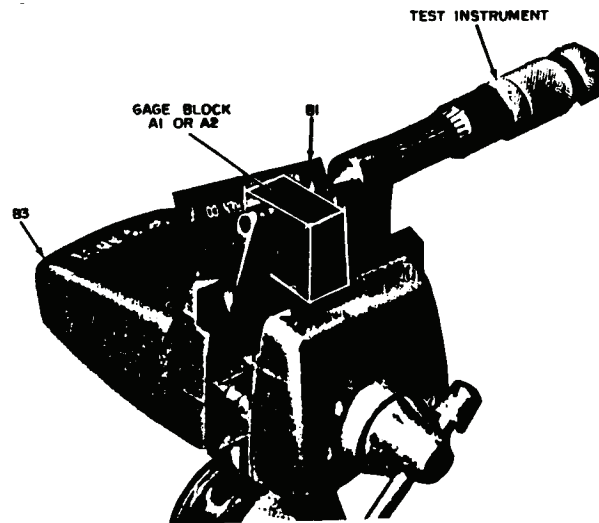

Figure 2. Parallelism test - equipment setup.
- (7) If TI basic length is 1 to 5 inches, perform (8) through (15) below:
- (8) Place vise on a flat level surface.
- (9) Place TI in vise so TI is at a 90 degree angle from work surface and spindle is parallel to rubber jaws of vise (fig. 2).
(10) Rest appropriate size gage block on rubber jaws of vise so that gage block is flat on anvil face of TI (fig. 2).